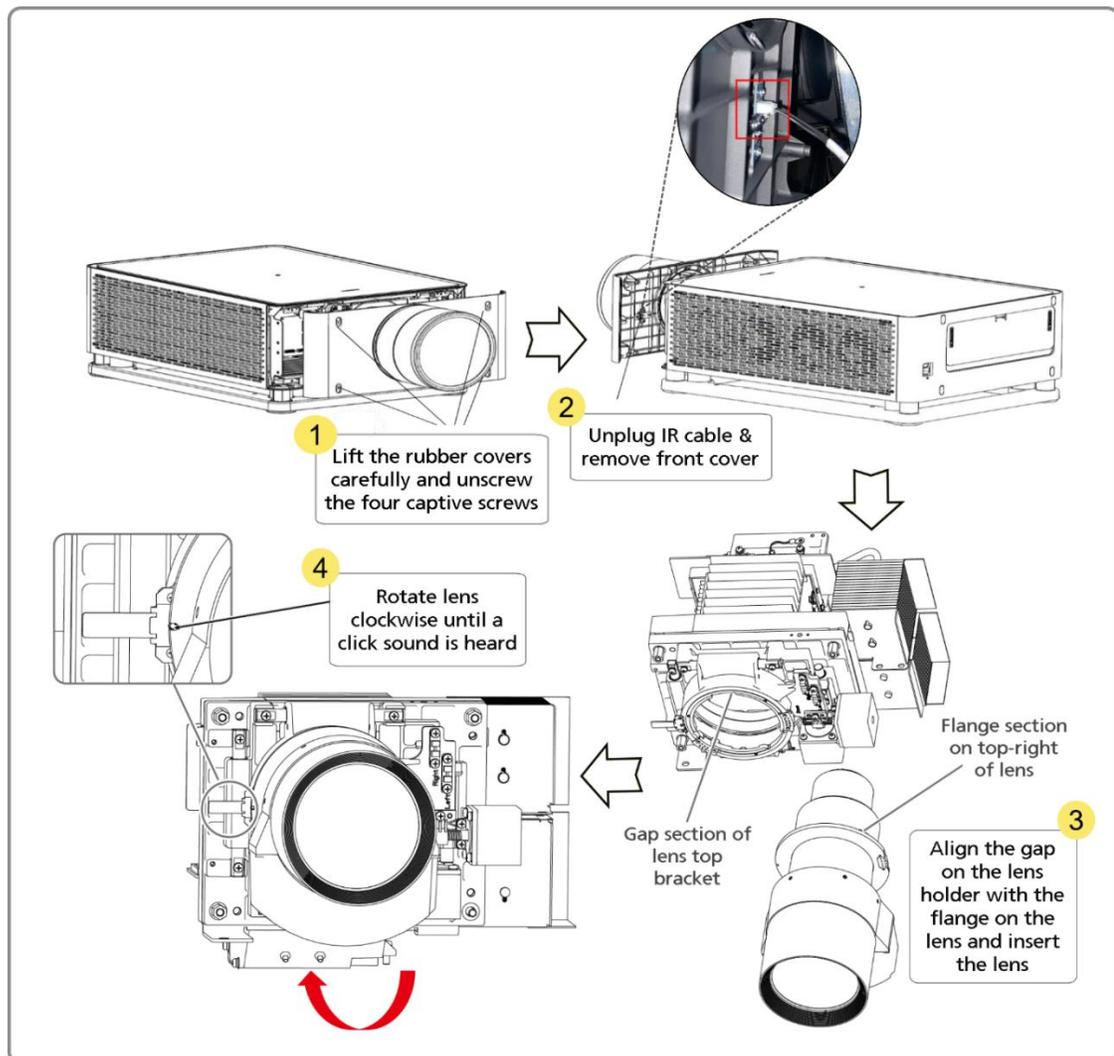

Figure 10:
- As shown in **Figure 10**, align the top right flange of the lens with the top notch on the lens bracket. Send the projection lens into the bracket slowly. Overlap the flange surface and the bracket front surface tightly, turn the projection lens clockwise, you will hear a click sound after about 60° rotation and the positioning pin on the left side of the bracket will come out of the positioning holes on the flange of the projection lens (refer to Step ④ in **Figure 10**), which indicates the projection lens is installed. When the installation is finished, there should be no gap between the flange surface of the lens and the bracket front surface.
- When tightening the lens clockwise, make sure to see the positioning column (refer to Step ④ in **Figure 10**), on the left side of the lens rack eject from the hole on the left side of the lens flange. Otherwise, it may slip from the lens rack during use.